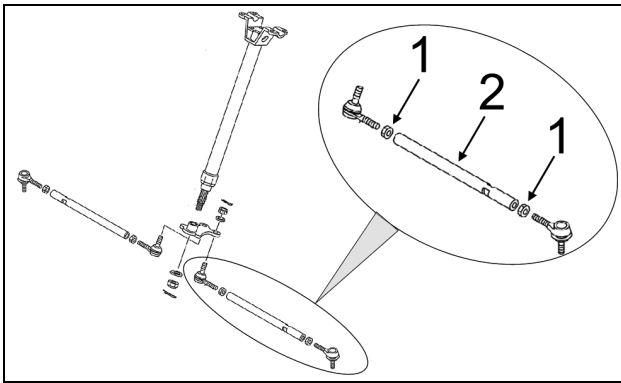

Figure 14
To adjust the vehicle's steering system, first loosen coupling rod nuts (1), then screw or unscrew the coupling rod (2) an equal number of revolutions on both sides of the vehicle. Retighten nuts when adjustment is complete. See Figure 14.